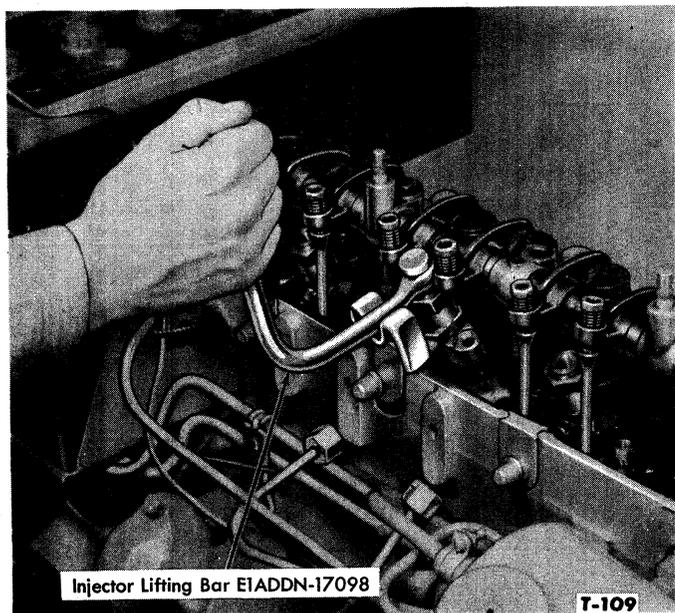

Figure 11—Removing Fuel Injectors
- c. Remove the two attaching bolts from each injector. Attach Injector Lifting Bar, EIADDN-17098 to the injectors as shown in Figure 11. Make sure the legs of the tool bear against the cylinder head rather than the rubber injector seal. Remove the fuel injectors and the injector seat washers from the cylinder head.